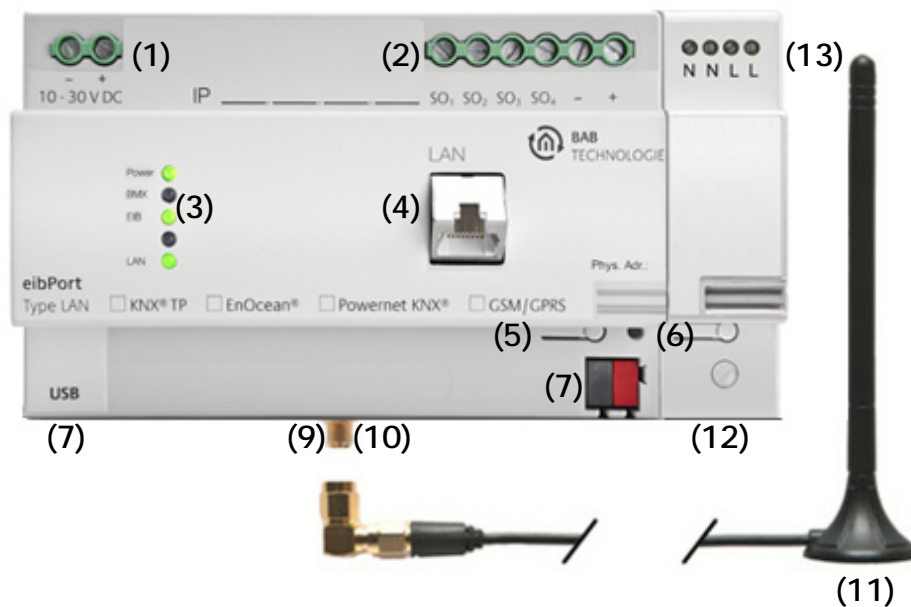

Figure 1: Device Overview
Connect the power supply according to the marking with the spring clips (figure 1, (1))
For programming the eibPort it is necessary to access via LAN. This can be done both using an existing LAN network or via direct connection. Plug in the network cable (LAN) into the RJ 45- connector (**figure 1(4)**).
- § Connect the bus wire with the bus clamp (**figure 1, (8)**)
- § Connect the PowerNet net coupler with the electric power wire (**figure 1, (13)**)
- § Screw the SMA plug on the SMA connector to tighten it (**figure 1, (9,10)**).
- § Connect the 1-Wire device/bus to the USB Terminal (**Figure 1, (7)**). By a 1-wire-bus-adapter, 1-wire-network will be connected with eibPort. For most applications the normal telecommunication cable J-Y(ST)Y 2x2x0m8, resp. a KNX-installation wire is eminently suitable.
When all connections are made correctly the device may be supplied with power. Please wait until the device has booted completely before checking the correct installation. The boot phase takes about 2 minutes. Have a look at signal LEDs (**figure 1 (3)**).